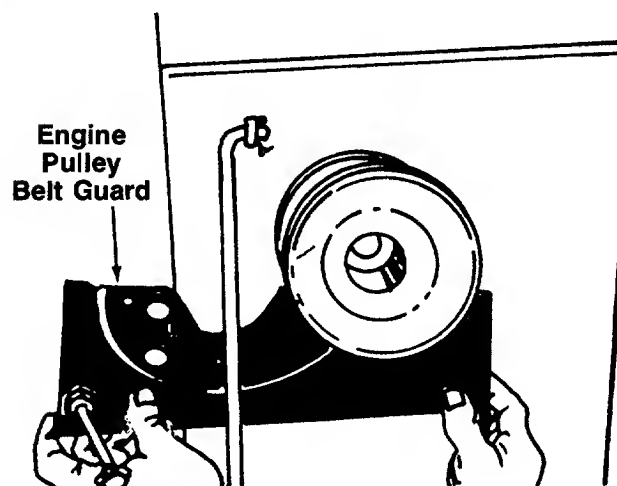

FIGURE 22.
6. Remove the engine pulley belt guard by slipping it back and to the right. See figure 22.